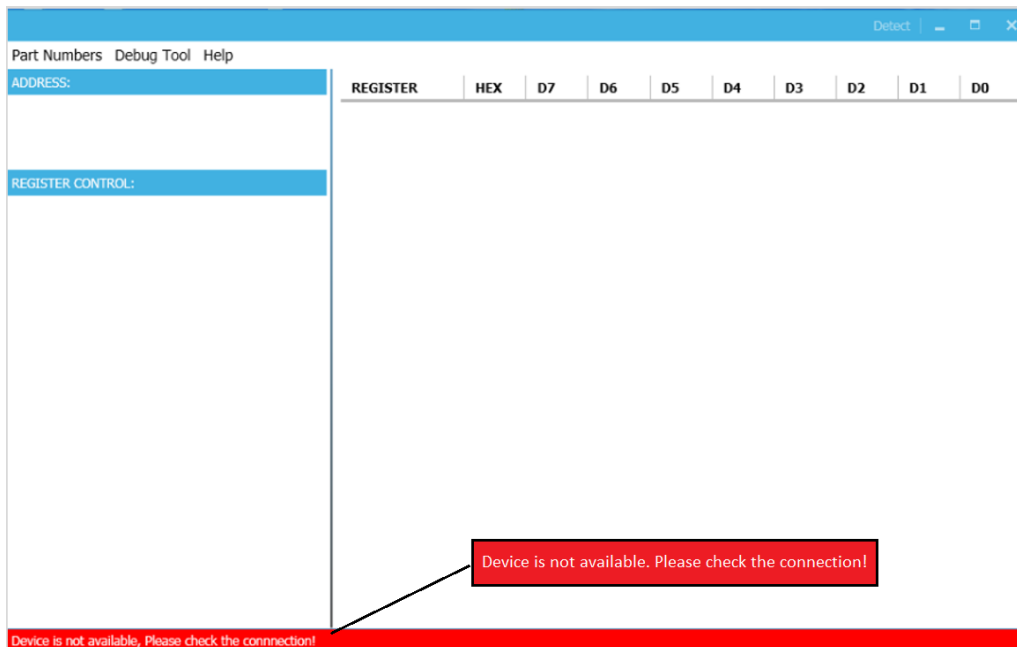

Figure 9: Warning Indicates Unsuccessful Connection – USBI2C Communication Interface Device is Not Connected
- 2) “Device is not available. Please check the Connection!” This means that the USB I2C communication interface device is not connected (see Figure 9).
The screenshot shows the same software window as Figure 9, but now it is titled 'MP5416-5V POWER MANAGEMENT IC WITH I2C NO LOCKED V1.2'. The 'ADDRESS:' field contains '69'. The 'REGISTER CONTROL:' section has three dropdown menus: 'BUCKCONTROL', 'LDOCTRL', and 'SYSCTRL'. The main table is populated with the following data: